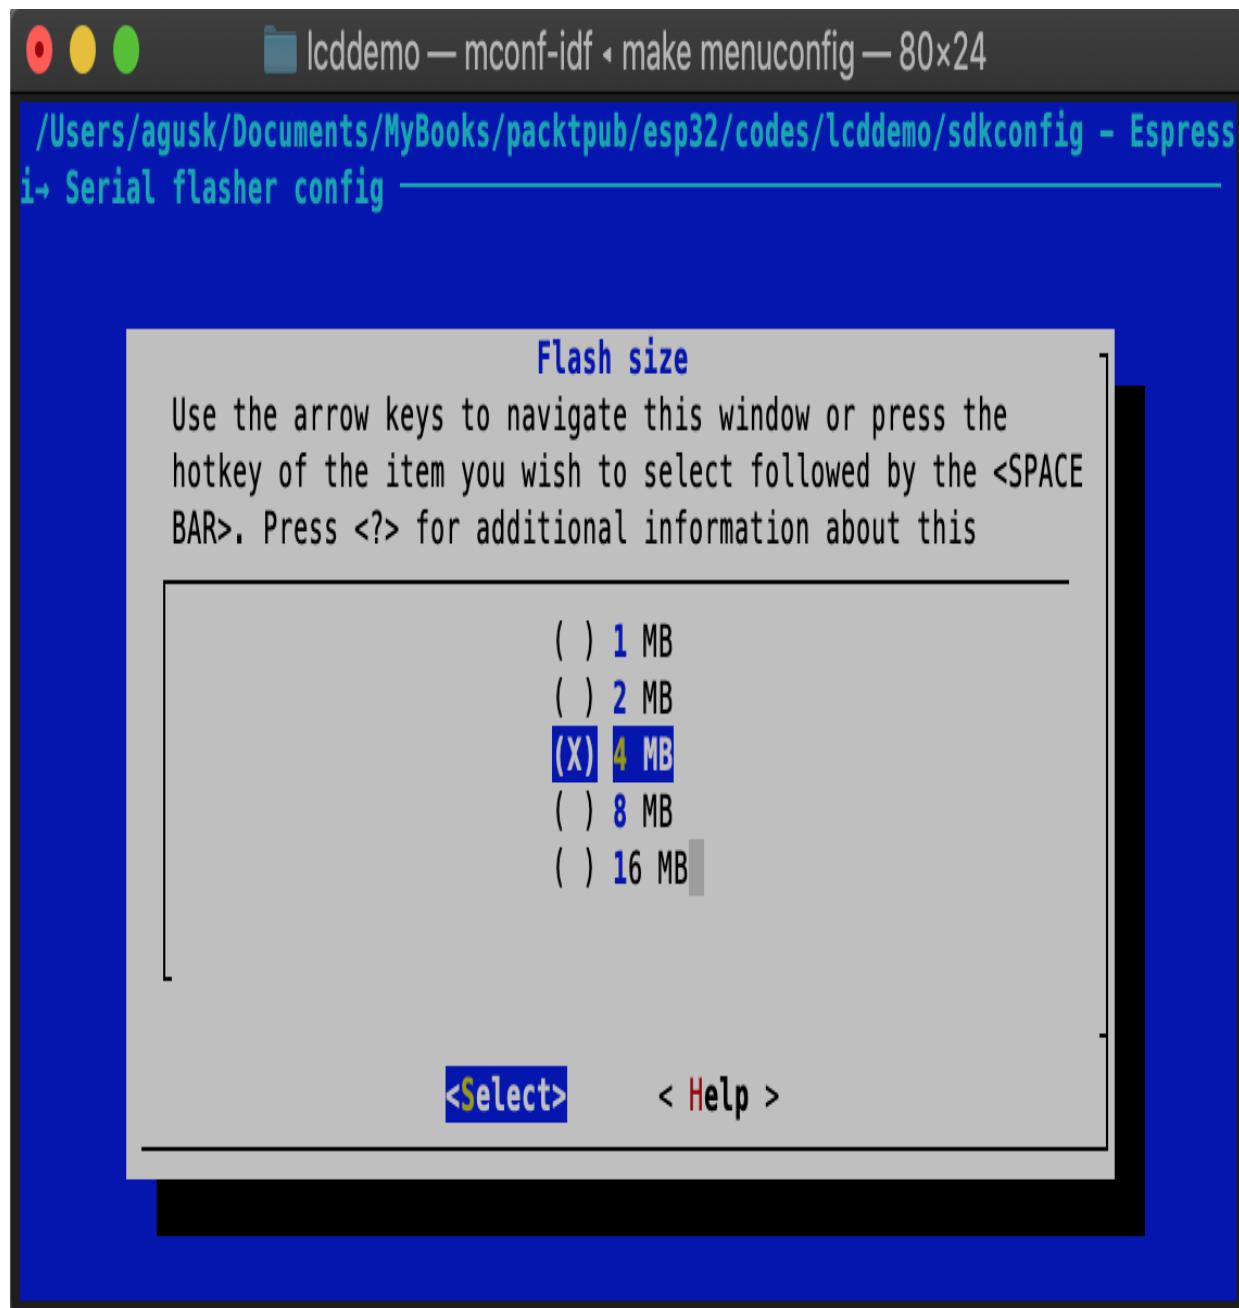

Figure 2-12: Selecting 4 MB for flash size
11. After this is selected, you will see a list of flash sizes, as shown in Figure 2-12: